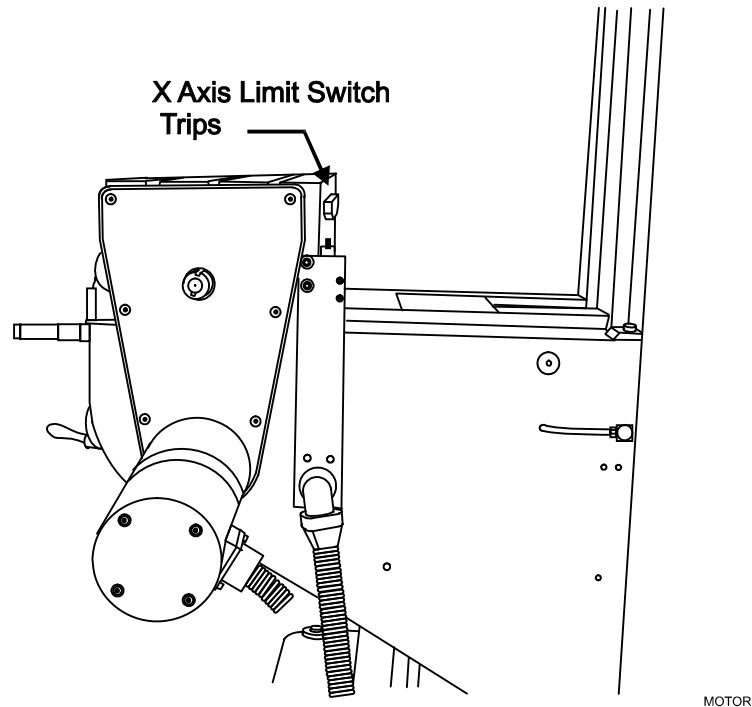

Figure 3-10, X-Axis Motor Housing
2. Make sure the pulley slides freely on the motor shaft. The pulley should have two preinstalled set screws in it. Refer to **Figure 3-10**.